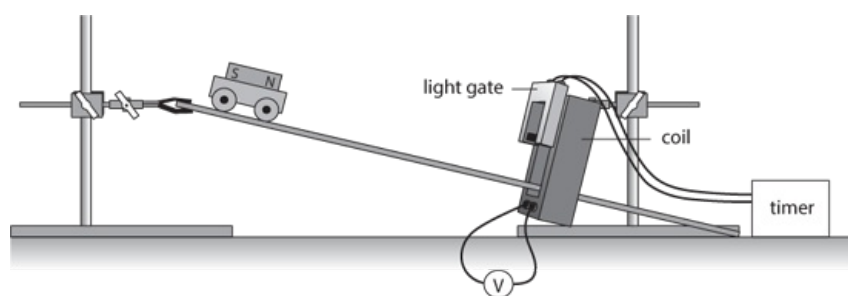

Figure 15.2: Trolley on inclined slope and light gate.
- 1 Set up the apparatus as shown in Figure 15.2.